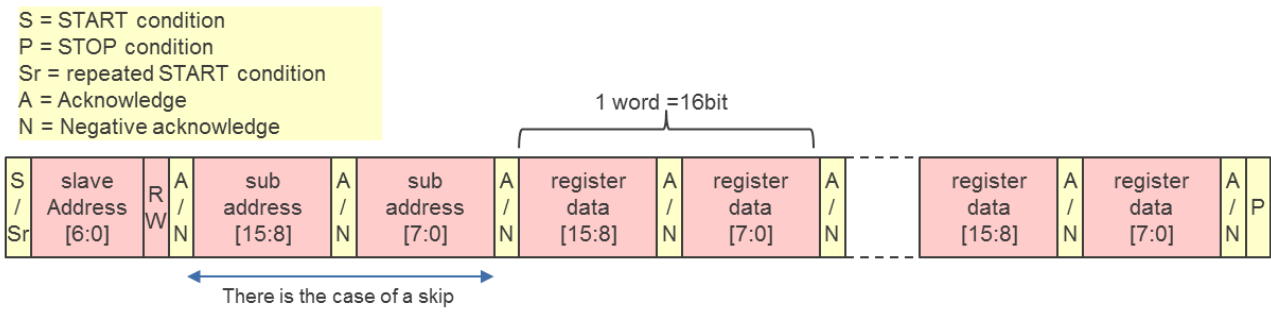

Figure 44 I2C format
- Analog Fine Gain (Fine): Two sets of 10bits registers setting provide fine tuning as shown in Figure 44.